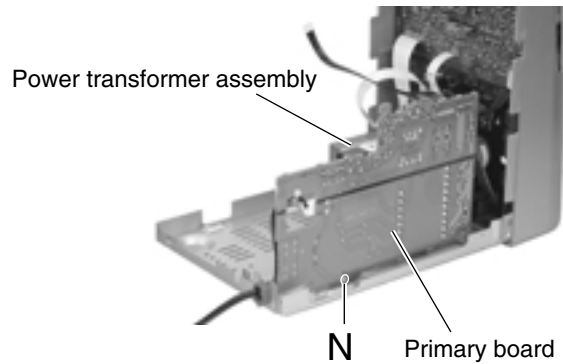

Fig.28
■ Removing the power transformer assembly (See Fig.28, 29)